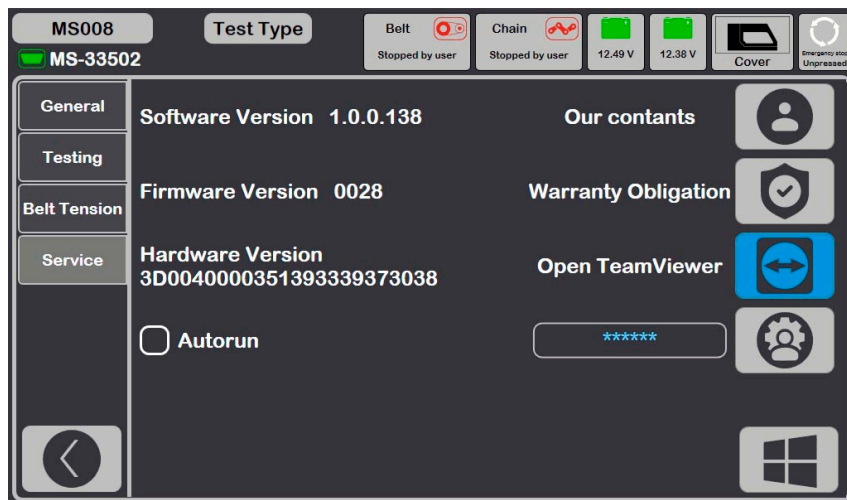

Figure 9
- "Service" – used by factory service specialists in case of software malfunctions, see Fig. 9.